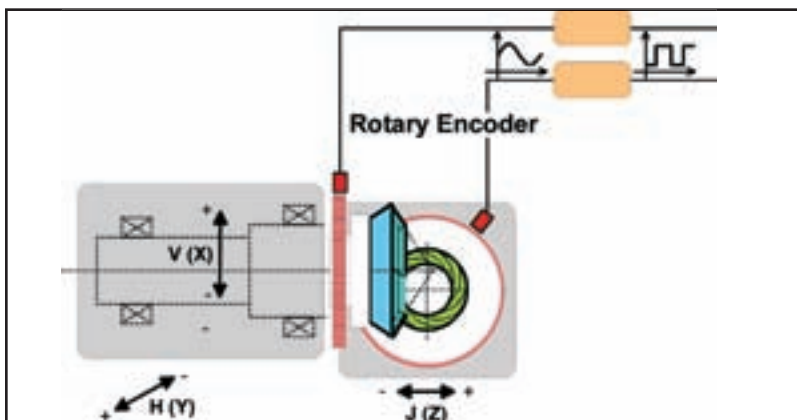

Figure 7—Principle of single-flank check on Oerlikon T60.
*Single-flank transmission error check (SFT).* For single-flank checking, high-resolution rotary sensors are mounted on pinion and gear spindle, typically as close as possible to the components to be analyzed (see Fig. 7). It is highly recommended that an NC control be used to apply torque and speed.